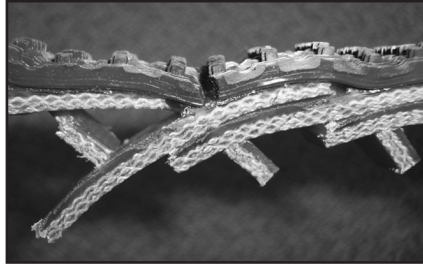

Fig. 3
- Twist the tab in front of the splice 90° parallel with the slot. Pull the end of the link over the tab. See Fig. 3.